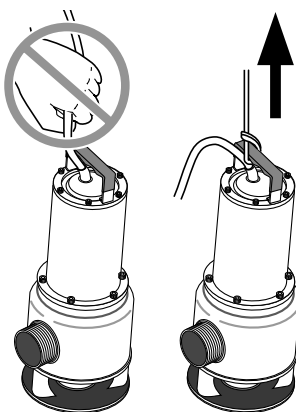

Figure 1
Do not lift pump by power cord. See “Lifting Pump” and Figure 1.
**⚠ WARNING** **Risk of electrical shock. Can burn or kill.** Do not lift pump by power cord. See "Lifting Pump" and Figure 1, on Page 4.